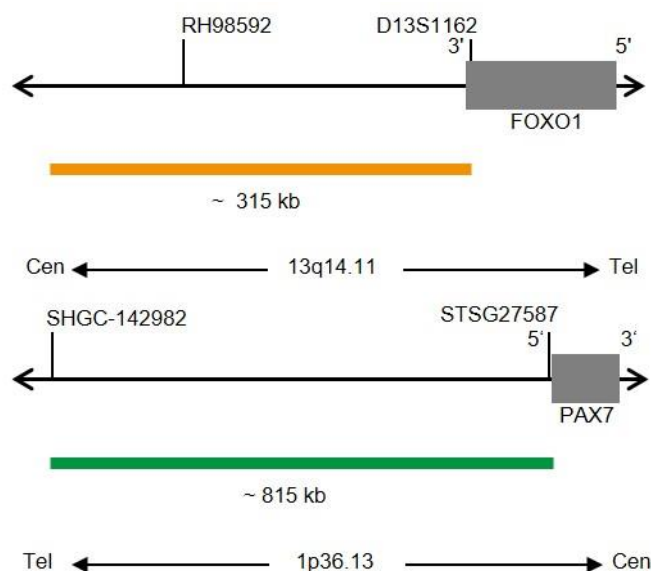

Fig. 1: Top: SPEC FOXO1 Probe map; Bottom: SPEC PAX7 Probe map (not to scale)
- ZyOrange (excitation 547 nm/emission 572 nm) labeled polynucleotides (~4.5 ng/μl), which target sequences mapping in 13q14.11* (chr13:40,816,168-41,132,595) proximal to the FOXO1 breakpoint region (see Fig. 1).
- ZyGreen (excitation 503 nm/emission 528 nm) labeled polynucleotides (~10 ng/μl), which target sequences mapping in 1p36.13* (chr1:18,139,970-18,956,785) distal to the PAX7 breakpoint region (see Fig. 1).